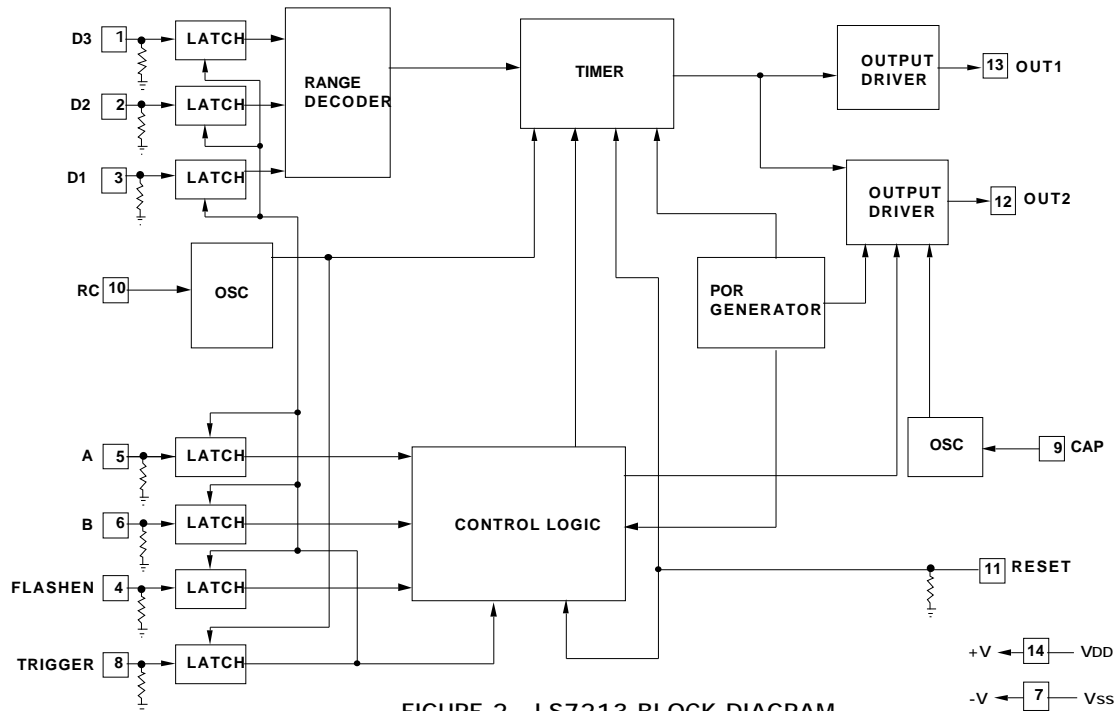

FIGURE 2. LS7213 BLOCK DIAGRAM
**NOTE:** A POR circuit (See Fig. 2) generates a reset upon power up that produces the same conditions described for **Reset** (Pin 11).